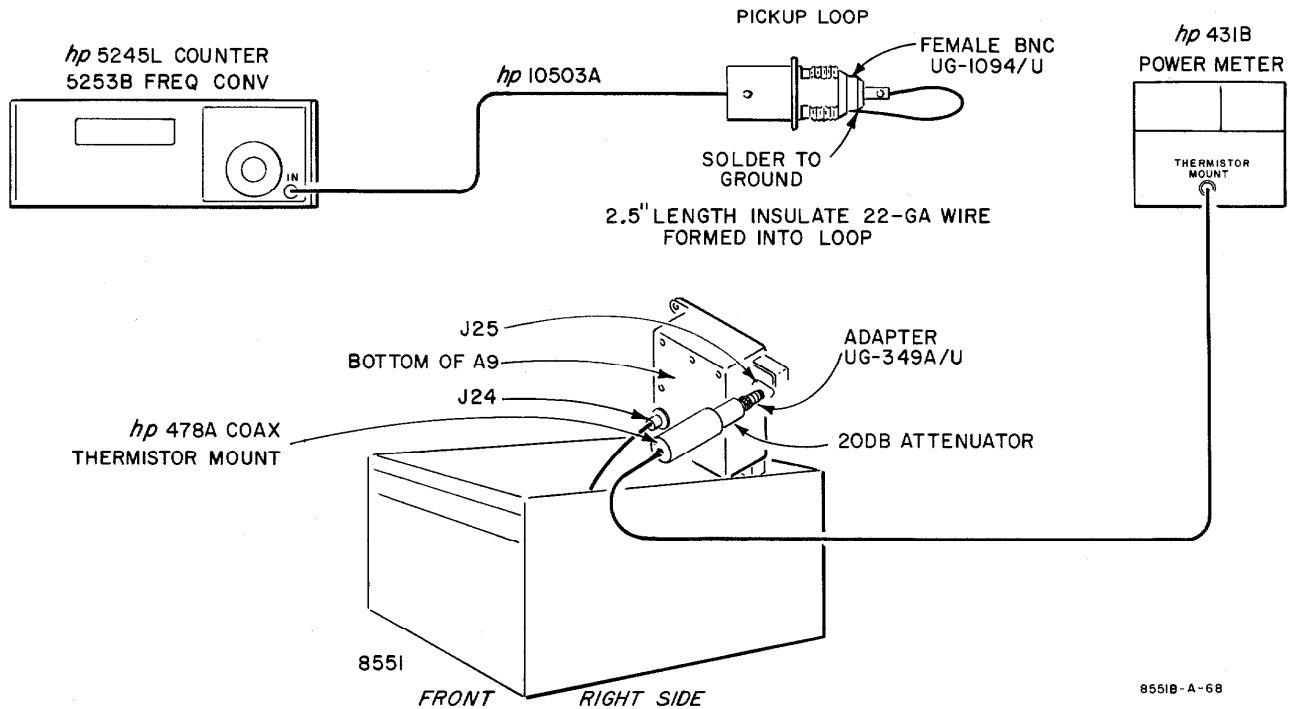

Figure 5-6. Setup for 180-Mc Adjustments
- a. Electronic Counter (5245L); item 7 in Table 5-1.
- c. Pickup loop (see Figure 5-6); item AD in Table 5-2.
- a. Connect pickup loop (see Figure 5-6) to counter via Cable Assembly 10503A.
- a. Place converter assembly approximately as indicated in Figure 5-6 so both Connector J25 and boards in top of converter assembly are accessible.
- b. Disconnect Cable W23 which connects to Connector J25. Connect adapter, 20-dB attenuator, and power meter thermistor mount to J25 as indicated in Figure 5-6.